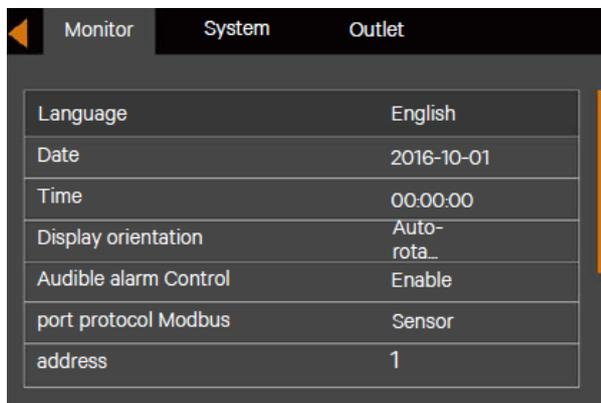

Figure 5-7 Language Selection
1. Through the LCD settings page, change the Dry connect 3 to 'Maintain mode'. See Figure 5-7.